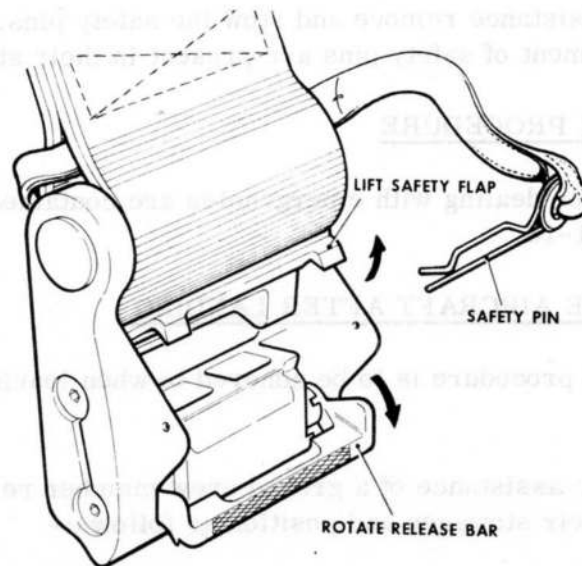

Fig 11 Operation of Koch fitting
5.1 - The procedure for strapping-in is as follows, refer to figs 11 to 13 as necessary:-
- 10) Operate the go-forward control, pull on the parachute lift webs and connect the Koch fittings to the lug on each shoulder of the skeletal torso harness. To fit, it is necessary to raise the safety flap of the Koch fittings and push the lug into the fitting until it locks into place. An audible "click" will be heard on correct engagement and full return of the safety flap will indicate positive locking (fig. 11). Insert the safety pins attached to the lift webs through the hole in the outboard flange of each Koch fitting to secure the safety flap.
To release a Koch fitting remove the safety pin, lift the safety flap and rotate the release bar downward (fig. 11). The bar is knurled on the top to improve the grip.